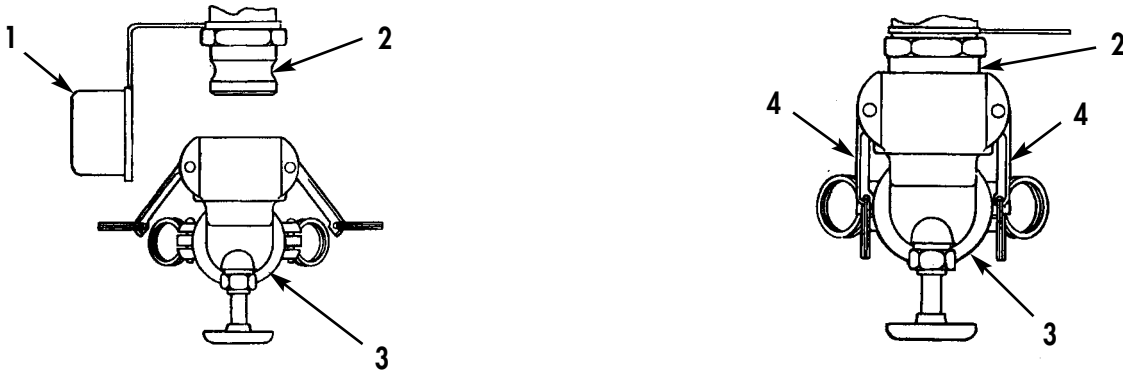

Figure 1. Coupler Valve Installed and Locked onto Adapter Assembly.
- a. At one end of drum, remove dust cap (Figure 1, Item 1) from adapter assembly (Figure 1, Item 2).
- b. Slide coupler valve (Figure 1, Item 3) on adapter assembly (Figure 1, Item 2). Lock coupler valve on adapter assembly (Figure 1, Item 2) by pushing in both cam arms (Figure 1, Item 4).